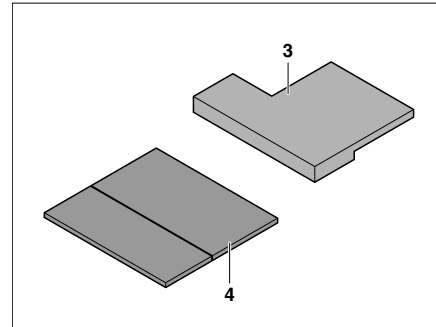

Fig. 191 Additional cushion
- Lay the guest bed foundation (Fig. 191,4) on the table. Lay the front edge of the guest bed foundation directly against the driver's seat.